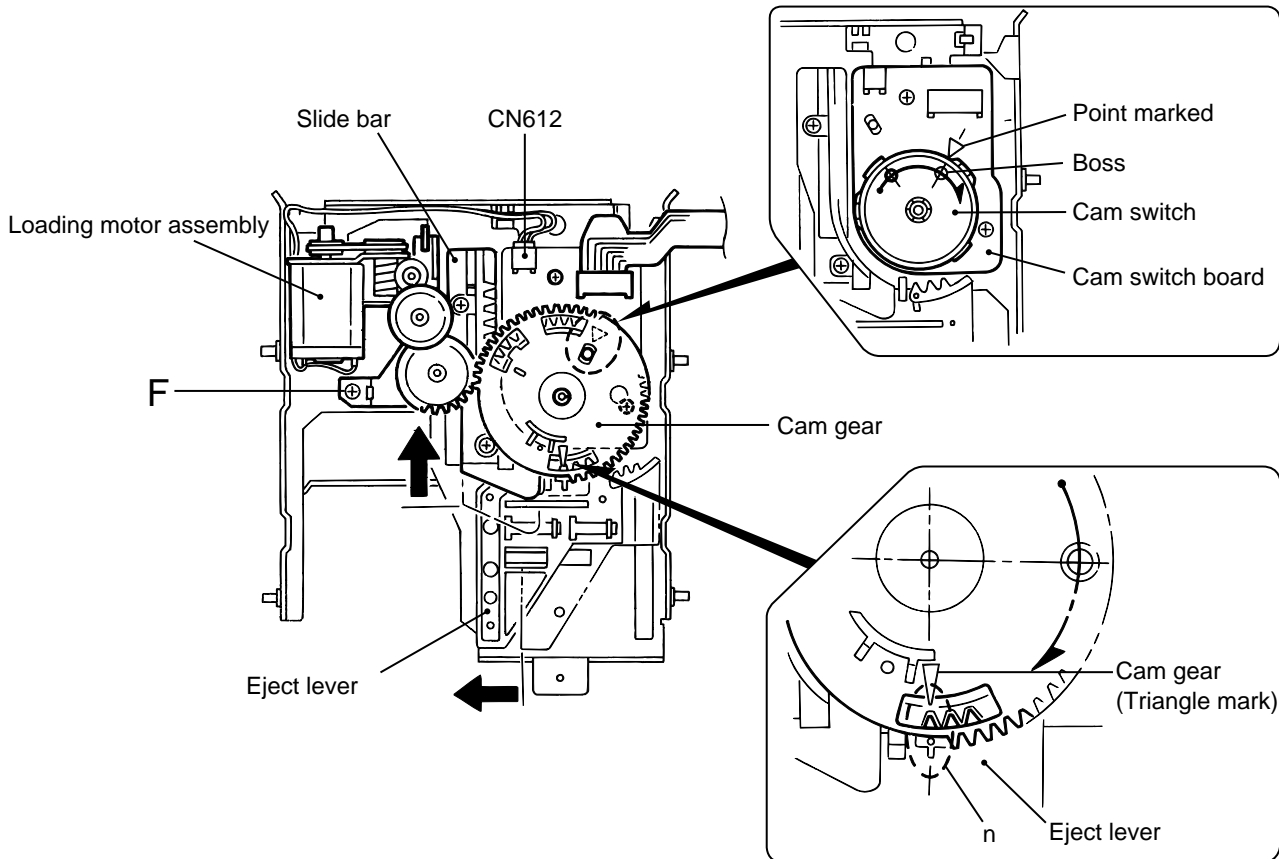

Fig.22
5. Reattach the cam switch board using the two screws H. (Fig.22)
6. Turn the cam switch to bring the boss to the point marked Δ on the cam switch board. Reattach the cam gear using a slit washer while fitting the cam gear slot to the cam switch boss. (Fig.22)
ATTENTION: When reattaching the cam gear, the cam switch boss should be fitted to the cam gear slot, and the triangle mark of the cam gear should be aligned to the hole of the eject bar as shown in Fig.22.
7. Reattach the loading motor assembly, using the screw F. Connect the harness extending from the loading motor to connector CN612 on the switch board and fix it with the wire holder. (Fig.22)